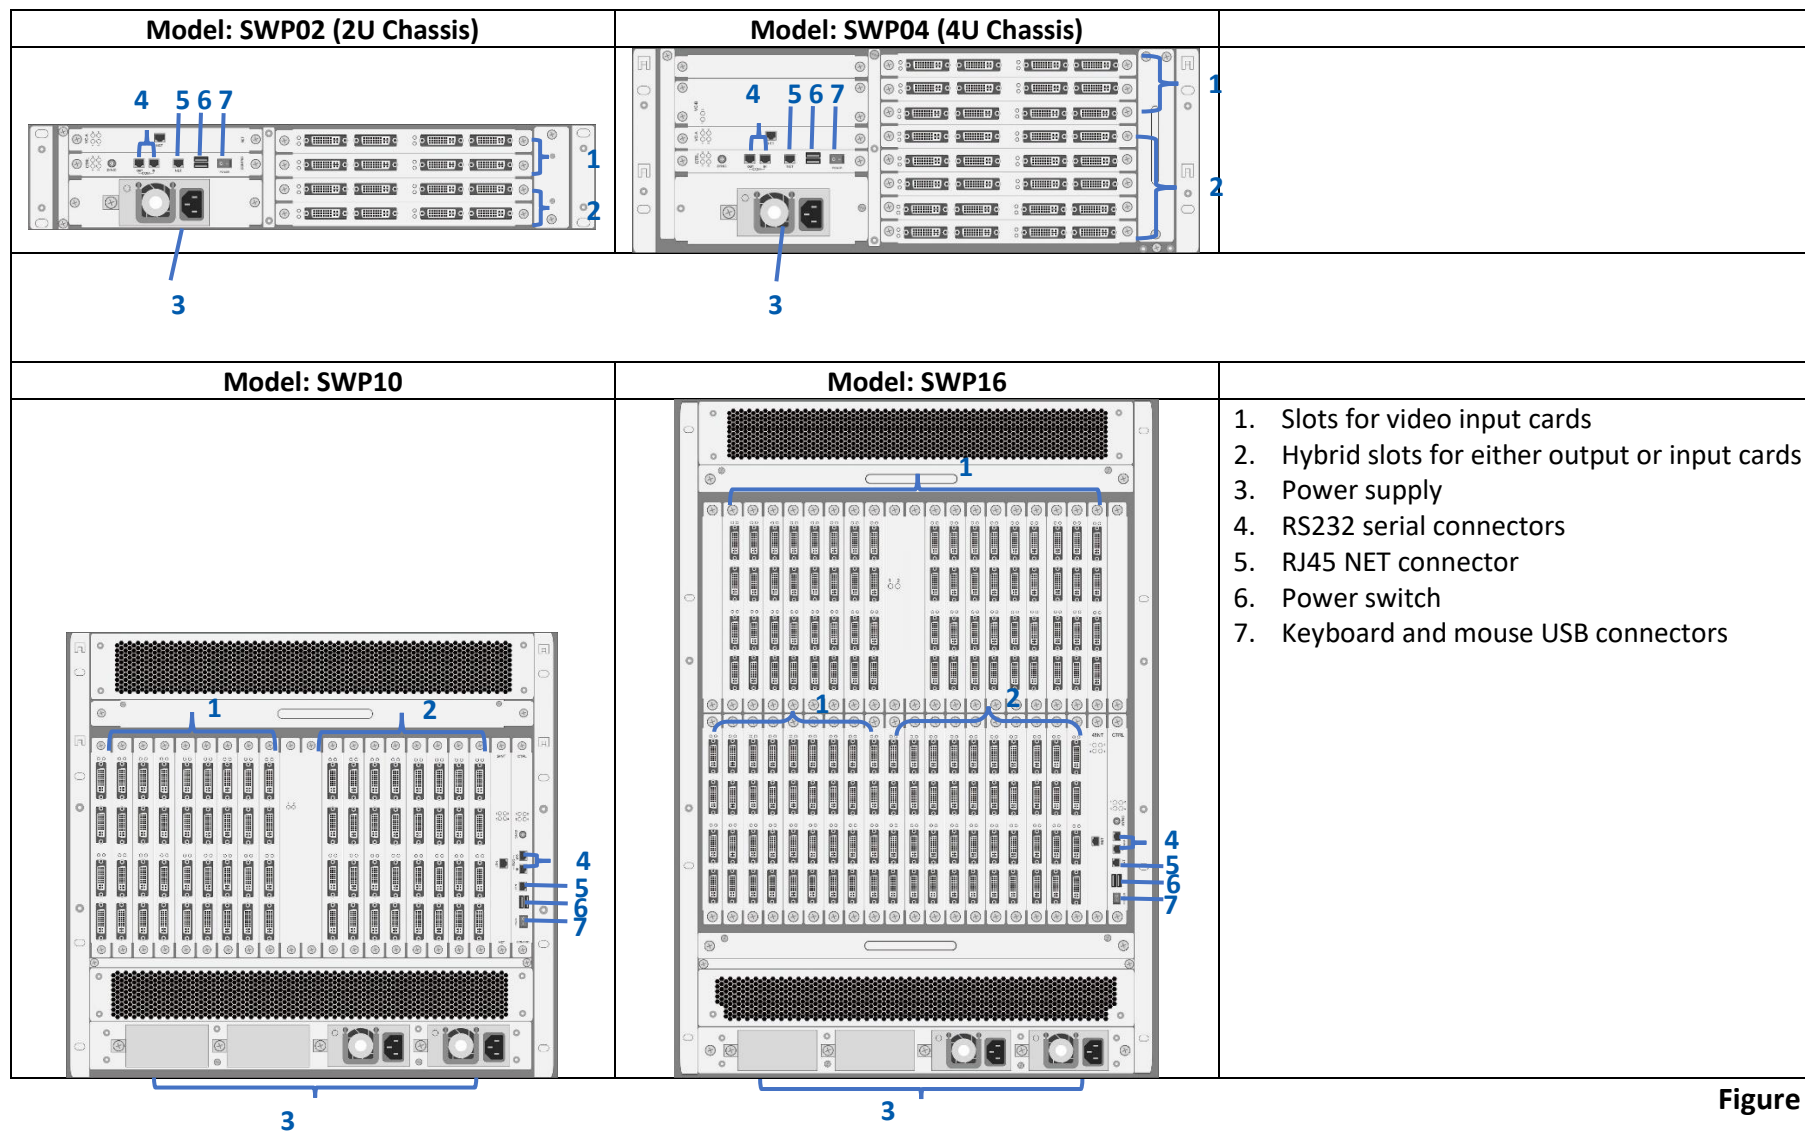

Figure 1
Step2	<p>Connect the control PC to the SW Pro controller using CAT cable between PC net port and controller net port (No.4 in Figure 1)</p>